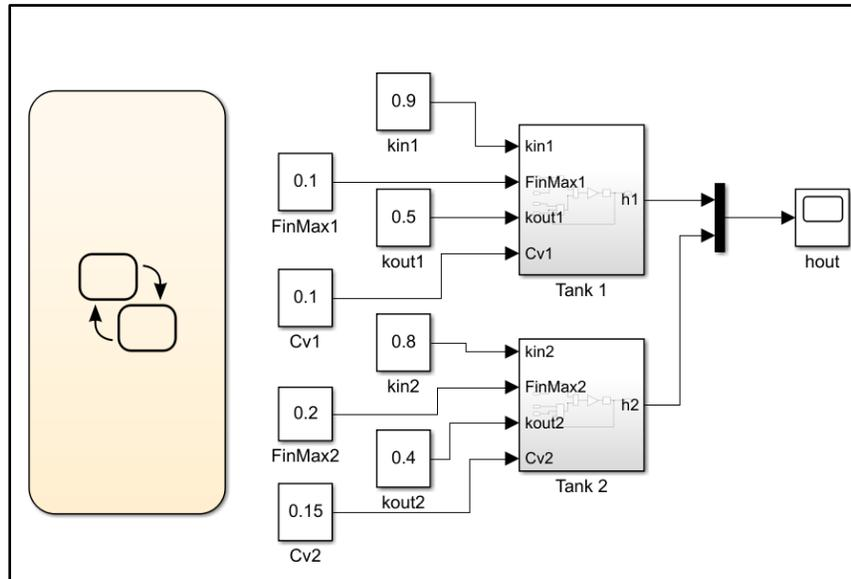

Figure 14. Including a Stateflow chart into the model window.
2. Enlarge the block as shown in Figure 14.